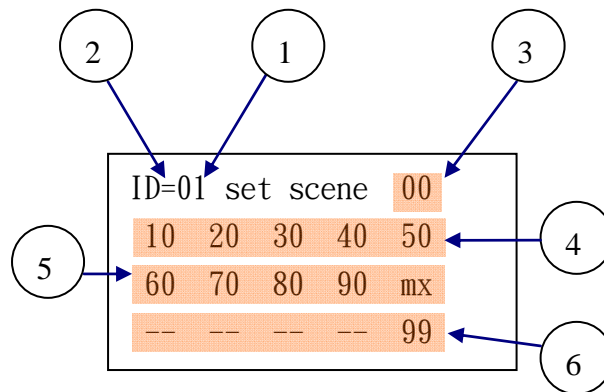

Figure 2.5: The LCD display showing scene setting for a target device
Every target device in the DALI system can be set for a specific scene. For the DALI system, there are 16 scenes (0~15) available for every target device. The window showing scene setting for a target device is illustrated in Figure 2.5. Just move the cursor to the appropriate object arrowed by the circled number in Figure 2.5. The functions of the objects arrowed by the circled numbers are described below in the items with corresponding numbers.
- (1) Select ID number (0~63) of the target device.
- (2) Press the “OK” button. You can read the illumination of the target device with ID determined from position ① in Figure 2.5.
- (3) The location arrowed by ③ in Figure 2.5 represents scene 0, whose value “00” indicates that present illumination of the target device is 0 (off).
- (4) The five numbers (10, 20, 30, 40, 50) in the row arrowed by ④ in Figure 2.5 represent five scenes. They are scene 1~5 starting from the left position to the right. Thus, the figure shows that the illuminations set for the scenes are: 10% for scene 1, 20% for scene 2, 30% for scene 3, 40% for scene 4, and 50% for scene 5.
- (5) Similarly, the five numbers in the row arrowed by ⑤ in Figure 2.5 represent five scenes. They are scene 6~10 starting from the left position to the right. Thus, the figure shows that the illuminations set for the scenes are: 60% for scene 6, 70% for scene 7, 80% for scene 8, 90% for scene 9, and “mx” (100%) for scene 10.
- (6) In the same way, the five numbers in the row arrowed by ⑥ in Figure 2.5 represent five scenes. They are scene 11~15 starting from the left position to the right. The figure shows that the target device does not belong to scene 11~14, and the illumination for scene 15 is 99%.
Note: (i) All values of scenes arrowed by ③④⑤⑥ shown in Figure 2.5 can be set by users. The allowable range is 0-99%, “mx” or “--”. When the setting is completed, users can test the illumination of the scene at which the cursor is located by pressing “OK” button.
(ii) When the cursor is located at any position indicated in Figure 2.5, the present value of the corresponding parameter can be written into the target device by pressing the “write” button ⑦ in Figure 1.1.